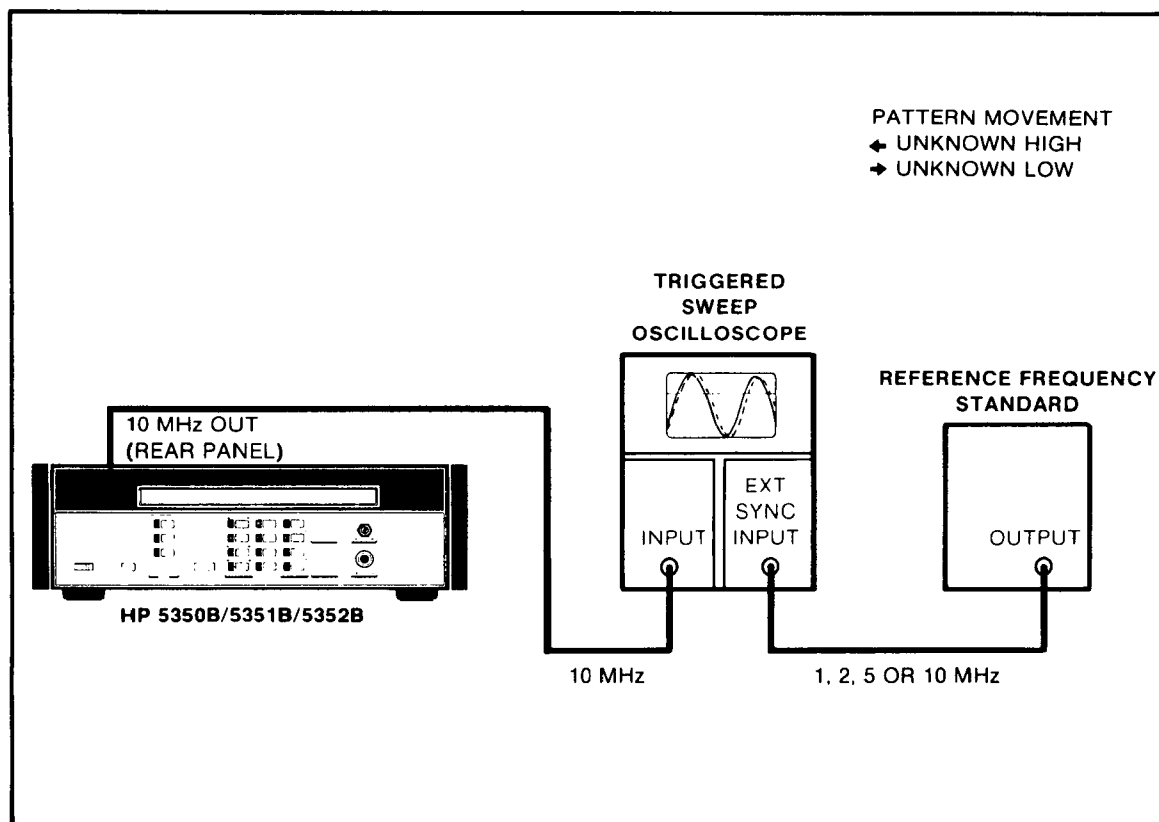

Figure 5-5. Oscillator Adjustment Setup
- a. Connect a house standard (1, 2, 5, or 10 MHz reference frequency) to the EXTERNAL SYNC INPUT of an oscilloscope and set the oscilloscope to EXTERNAL SYNC. Connect the 5350B/51B/52B rear panel 10MHZ OUT to the Channel A input of the oscilloscope. (See Figure 5-5.)